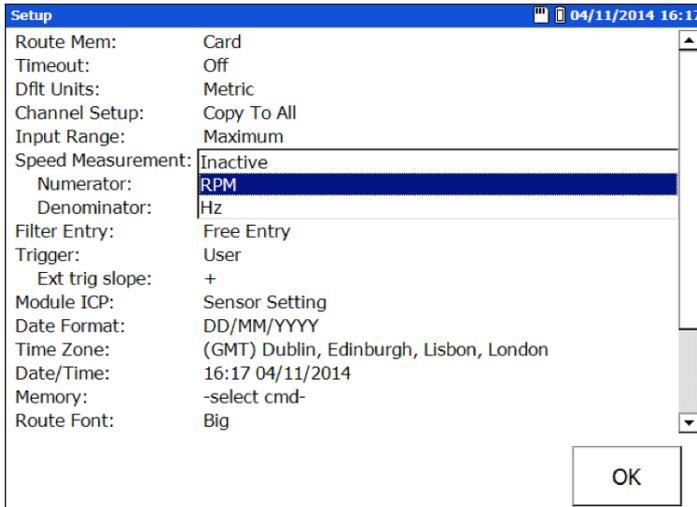

Figure 8. SKF Microlog Analyzer Setup.
- Go to the Setup menu of the SKF Microlog Analyzer and ensure that the speed is not set to inactive (**Figure 8**).
- Depending on what we choose in the Setup menu (**Figure 8**)